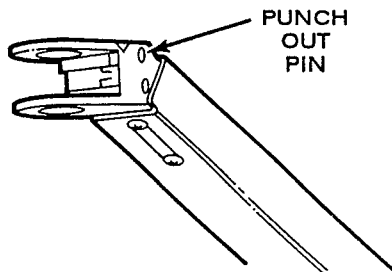

FIGURE 13 - REMOVING PIN
J. Punch out pin using pin punch, as shown in Figure 13, and remove knuckle.